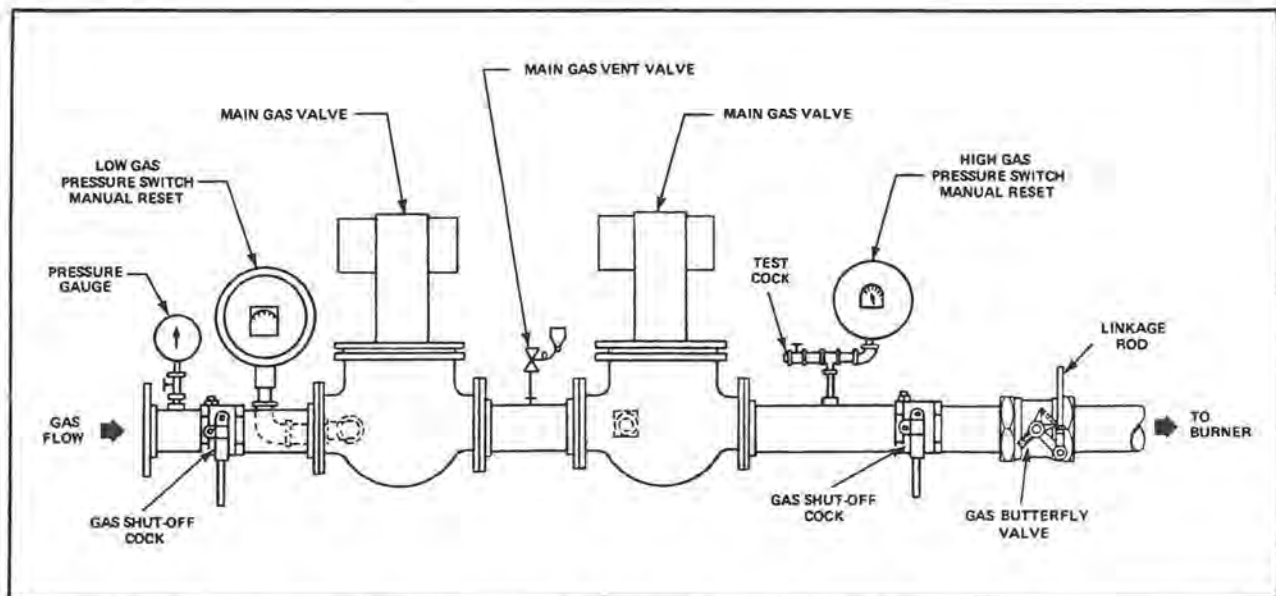

FIGURE 1-7. TYPICAL GAS TRAIN—TWO GAS VALVES
(8) Main Gas Cock (figure 1-7): For manual opening or closing the main fuel gas supply downstream of main gas line regulator.
(e) Main Gas Line Vent Valve (figure 1-7): A normally open solenoid valve for venting gas should any be present in main gas line when main gas valves are de-energized. Vent valve closes when main gas valves are energized.
(f) Low Gas Pressure Switch (figure 1-7): Pressure actuated switch that is closed whenever main gas line pressure is above a preselected pressure. Should the pressure drop below this setting the switch contacts will open breaking a circuit causing main gas valves to close.
(g) High Gas Pressure Switch (figure 1-7): Pressure actuated switch that is closed whenever main gas line pressure is below a preselected pressure. Should the pressure rise above this setting the switch contacts will open breaking a circuit causing main gas valves to close.
(h) Test Cocks (figure 1-7): Allow testing for leakage across main gas valve.
#### OPTIONAL GAS TRAIN: (Figure 1-7)
- (a) Additional Main Gas Cock (figure 1-7).
- (b) Additional Main Gas Valve (figure 1-7).
- (c) Additional Gas Pilot Valve (figure 1-7).
- (d) Pilot Line Vent Valve (figure 1-7): A normally open solenoid valve for venting gas should any be present in pilot line when pilot valves are de-energized. Vent valve closes when gas pilot valves are energized.